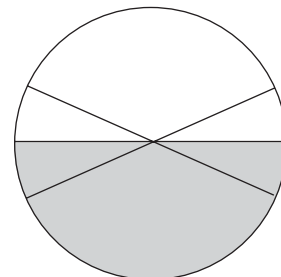

Fig. 9-5
⑤While looking through the eyepiece, turn the measurement knob so that the boundary line crosses the intersection point of the crossline while looking through the eyepiece (Fig. 9-5). If there is color blurring in and near the boundary line, turn the color compensator knob to remove it.
⑥The value indicated as the boundary line meets the intersection point of the crossline is the measurement value of the sample.